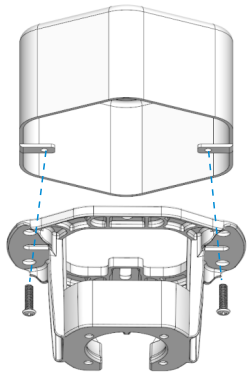

Fig. 4.1
Install the mounting bracket to the ceiling box, as shown in Fig. 4.1 below. Rotate the mounting bracket in different directions so that the bracket mounting holes match the screw holes of the ceiling box.
**Note:** This mounting bracket is a standard cable box. If the mounting bracket is installed at the outlet box, it should be installed on the outlet box with two screws matching the outlet box itself, as shown in Fig. 4.1.